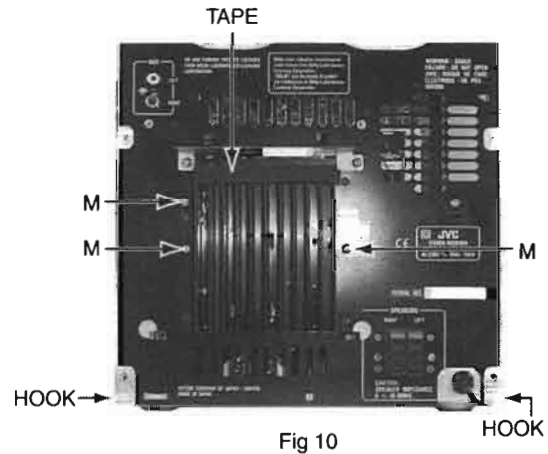

Fig 10
- 3.Remove three screws M on heat sink and mecha plate fastening in rear panel. (See Fig.10)
- 4.The tape pasted to the heat sink is peeled off. (See Fig.10)
- 5.Both sides hook remove and rear panel is removed. (See Fig.10)